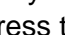

Figure 13 - The Clock (time) screen
2. Use the  and  soft keys to highlight the "Clock" menu option, then press the  soft key. The Clock (time) screen will then be displayed, as shown in Figure 13.